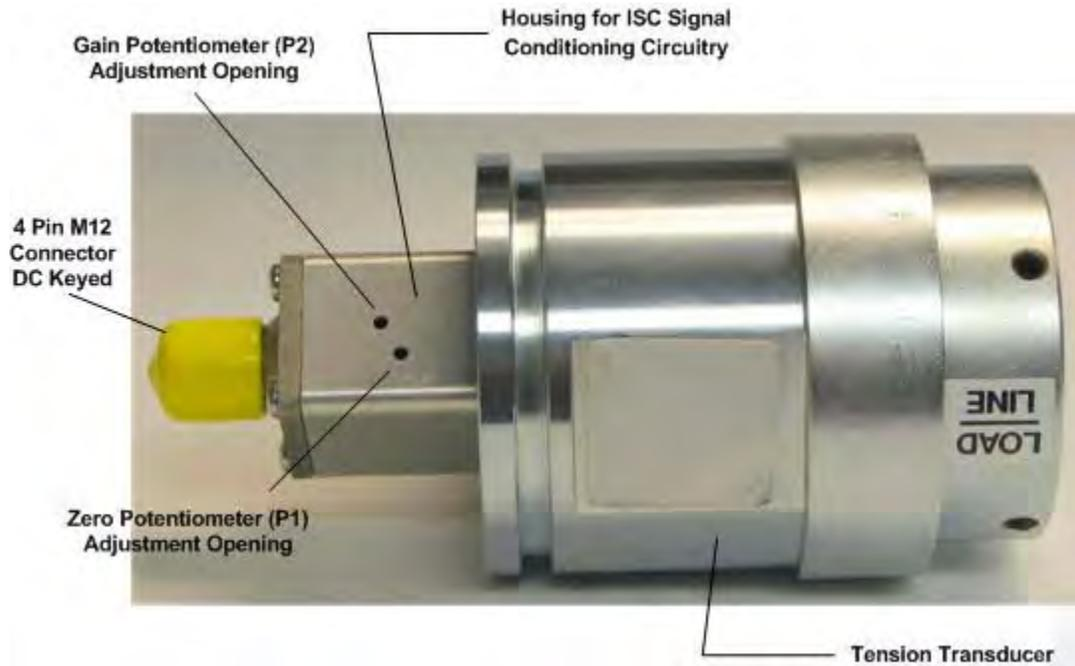
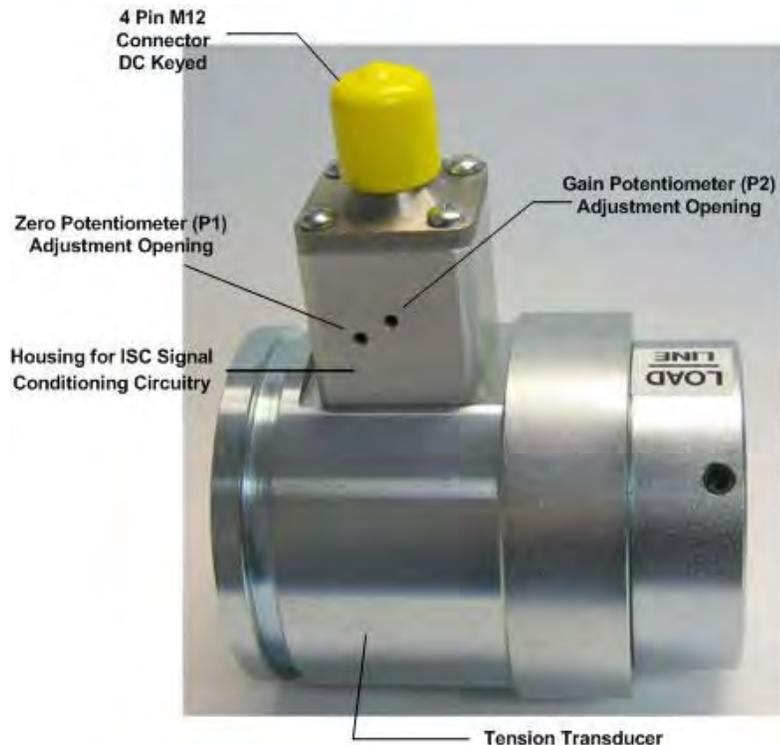

Figure 3 Ultra Series ISC Cantilever Tension Transducer Model EC
Figure 4 Ultra Series ISC Cantilever Tension Transducer Model SC
The Ultra Series ISC Cantilever Tension Transducer (see Figure 3 and Figure 4) consists of a housing that contains the amplifier and power supply boards that are coupled directly to an “Ultra” type load cell. There is an M12 connector to send amplified transducer signals into the analog input of a tension controller, PLC, PAC, drive or local I/O. This housing has two access holes for gain and zero potentiometer adjustments if necessary.
**The gain and zero adjustments are factory preset but accessible by the user for adjustment if absolutely necessary.** Adjustment holes to access these potentiometers are visible on the side of the housing. Adjustments can be made by removing the sticker cover around the amplifier enclosure. Refer to Figure 3 to locate the zero and gain adjustment holes.